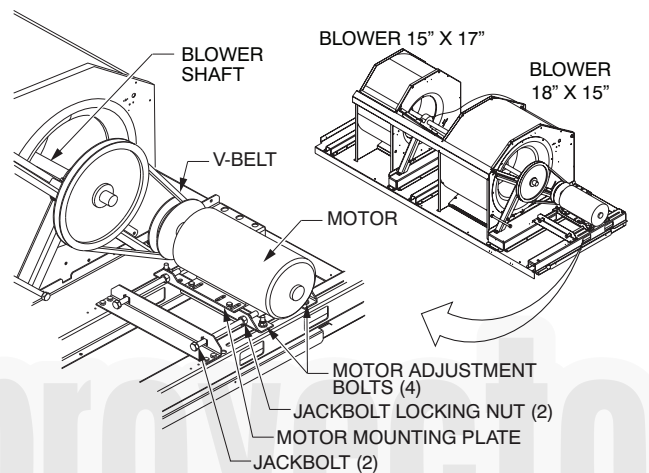

Fig. 4 - Belt Drive Motor Mounting
centrifugal blower wheels mounted on a solid blower shaft that is supported by two greaseable pillow block concentric bearings. A fixed-pitch driven fan pulley is attached to the fan shaft and an adjustable-pitch driver pulley is mounted on the motor. The pulleys are connected using a V-belt. See Fig. 4.
Use the following steps to adjust the V-belt tension. See Fig. 4 .
2. Loosen (turn counterclockwise) the motor mounting plate front bolts and rear bolts. See Fig. 4.
2. Loosen belt by loosening the motor adjustment bolts as described in the Belt Adjustment section above. See Fig. 4.